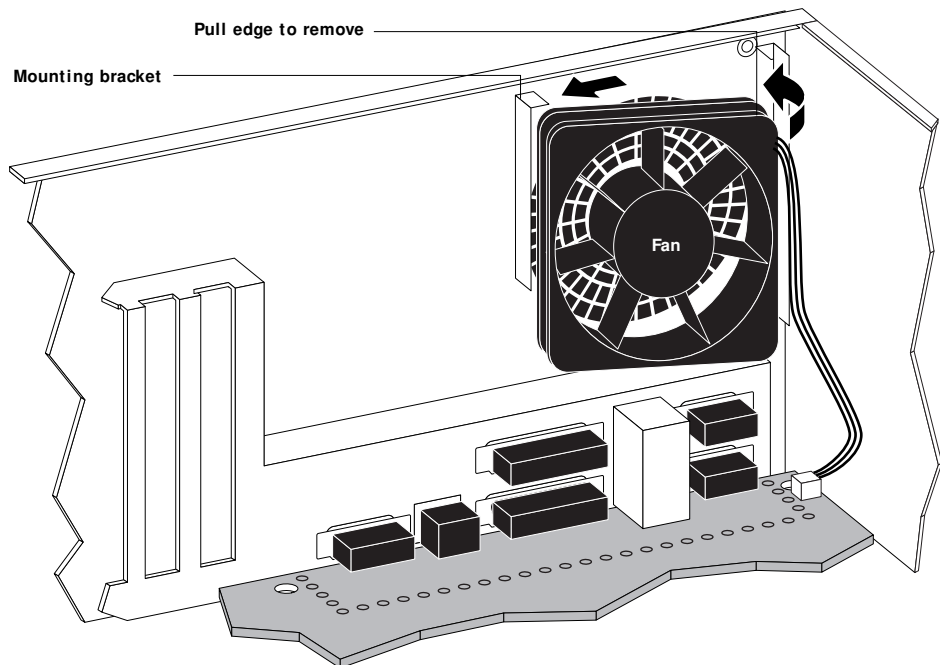

FIGURE 4-26 Removing the fan
1. Angle one edge of the fan into the mounting bracket on the back panel of the Fiery ZX and snap the fan into the clips on the bracket (see Figure 4-26 on page 4-36).